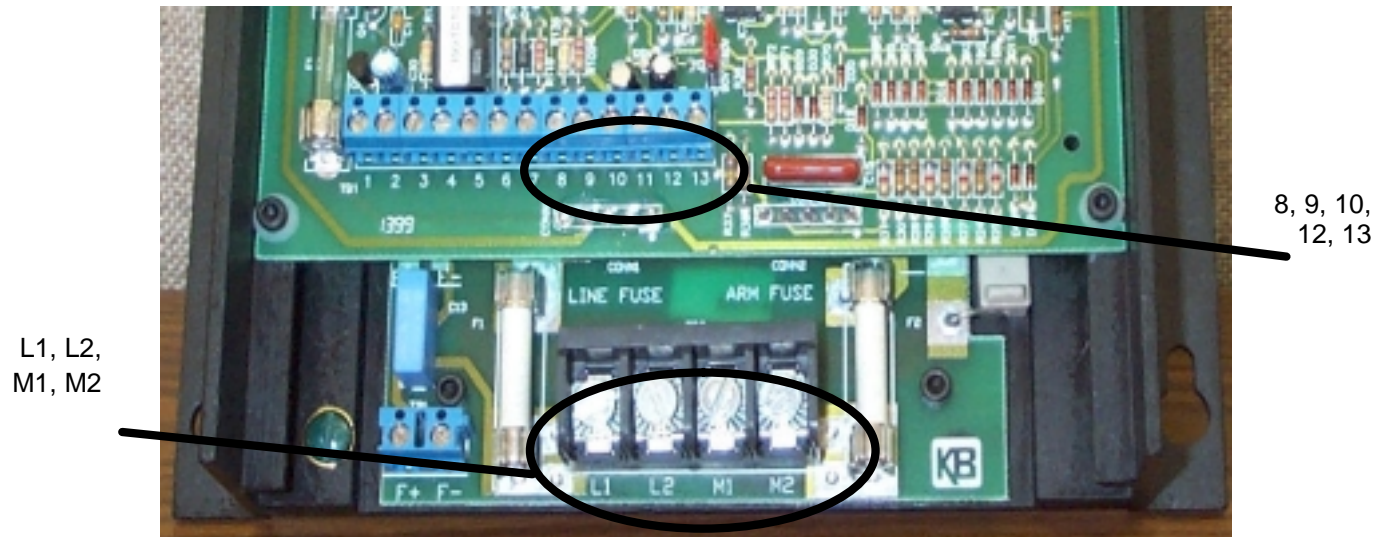

Fig. 4 Control Board Wire Locations
1. Connect wires to the new board per Table 2, also see fig. 4, Control Board Wire Locations